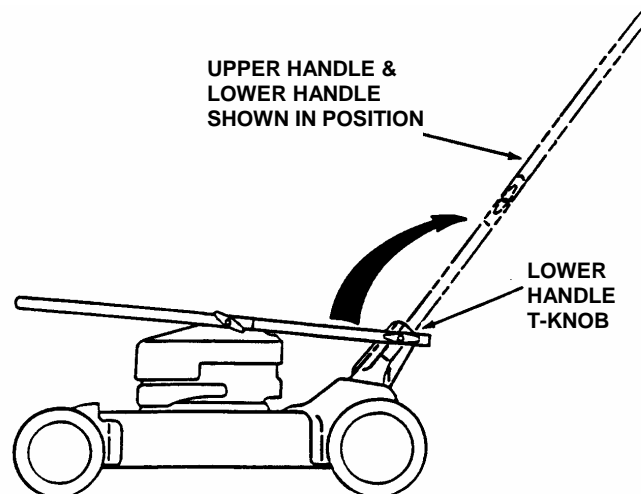

FIGURE 3
**STEP 3:** Raise upper and lower handle until it seats into position in the lower handle brackets. Securely tighten lower handle T-Knobs on both sides. See Figure 3.